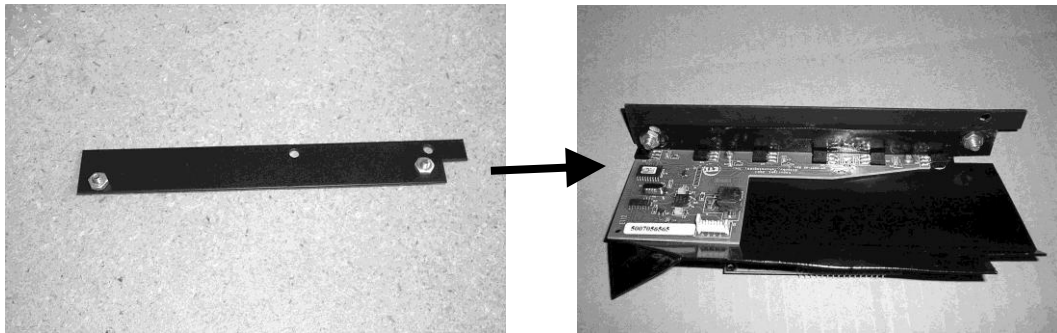

Figure 19.
20. The Receiver Mounting Plate (part # 05-0098-01) will now have to be mounted onto the Receiver board bracket, which is the larger of the two boards. The hardware that is needed is mounted on this bracket for convenience. See figure 19 for orientation.